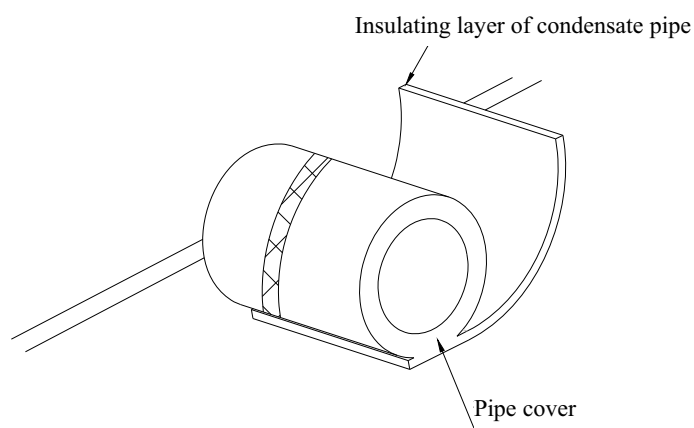

Figure 1-1-10
- ◆ The Drainage Pipeline shall be installed with an inclining angel of  $5^{\circ} \sim 10^{\circ}$ , so as to facilitate the drainage of condensate. The joints of the Drainage Pipeline must be covered by thermal insulation materials to avoid generation of exterior condensate. (As shown in Figure 1-1-10)